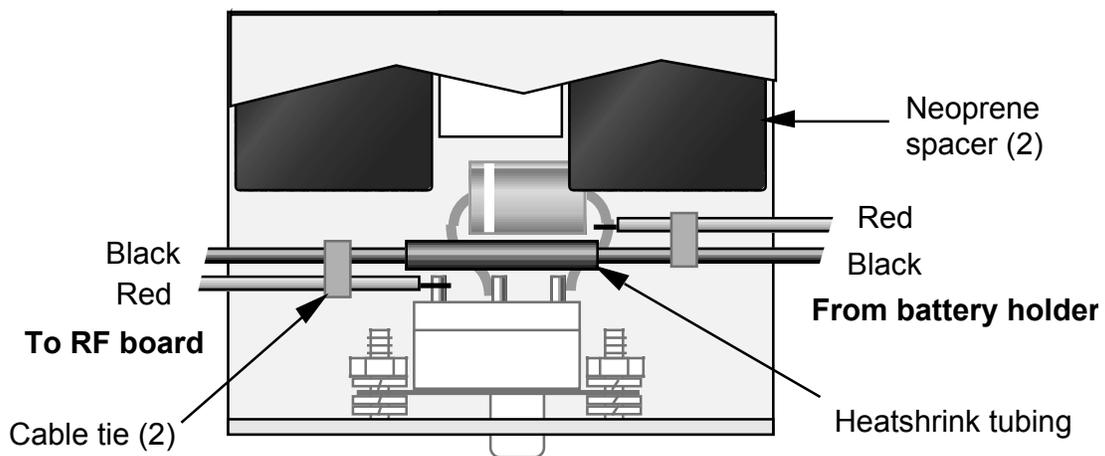

Figure 4
- Solder the battery holder's red wire to the anode (non-banded) end of D1 as shown in Figure 4.